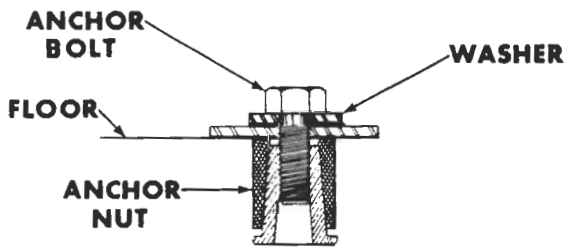

Figure 3
3. Move machine out of the way and drill holes for the nuts -- install nuts. Refer to figure 3.